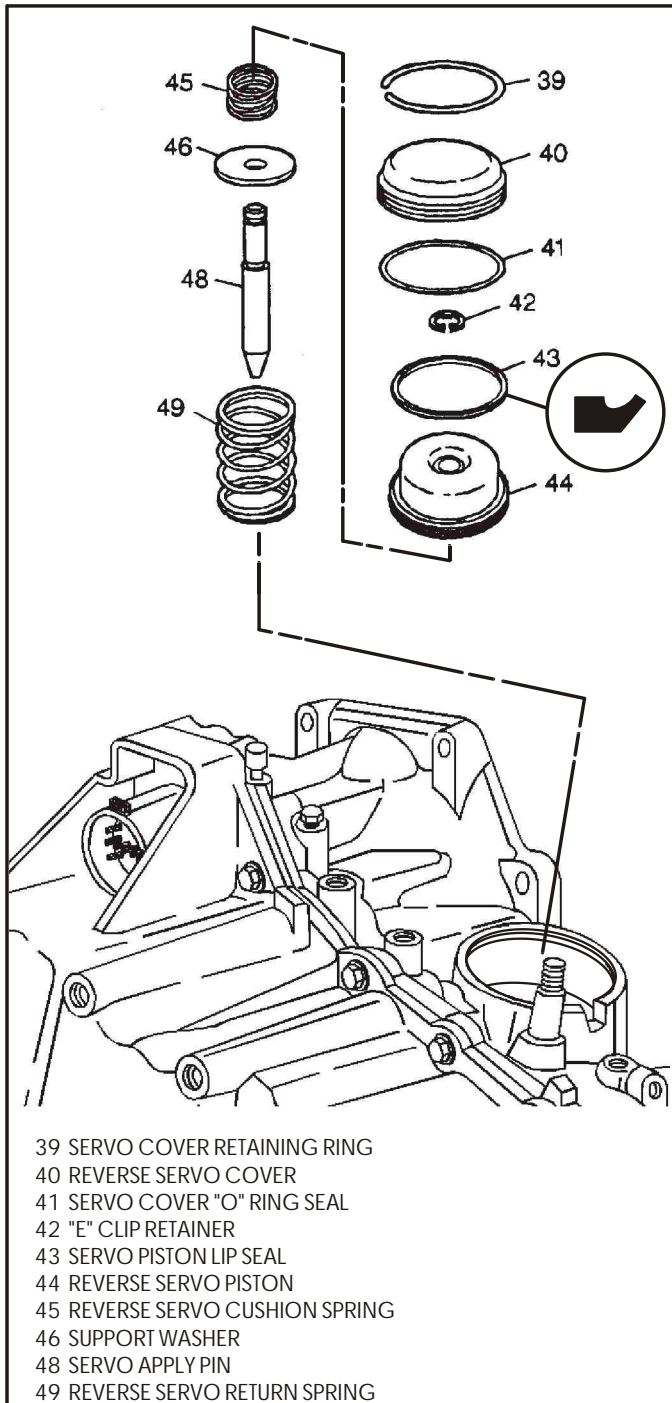

Figure 207
28. Assemble the reverse band servo as shown in Figure 207.
29. Install new lip seal on reverse servo piston, as shown in Figure 207, with the lip facing the servo cover.
30. Install the reverse servo piston assembly into the transaxle case bore as shown in Figure 207.
31. Install new "O" ring seal on the reverse servo cover and lubricate with petrolatum. Refer to Figure 207.